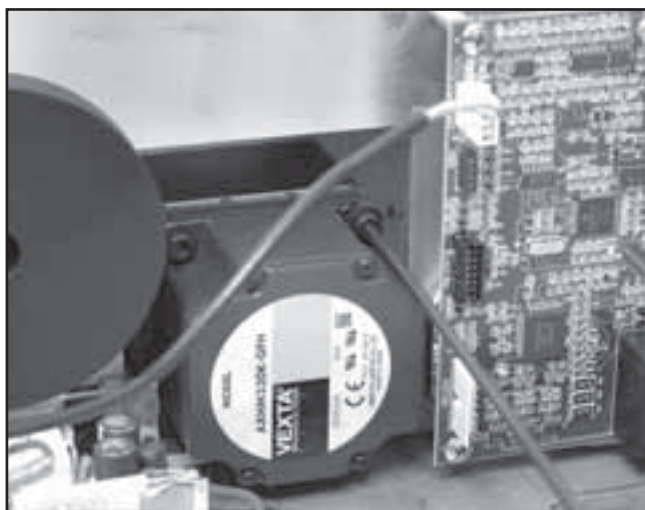

FIGURE 6.58
1. Position new Motor Assembly into Chassis and secure with the four Motor Assembly Screws, Lock washers, and Nuts. See Figure 6.58.